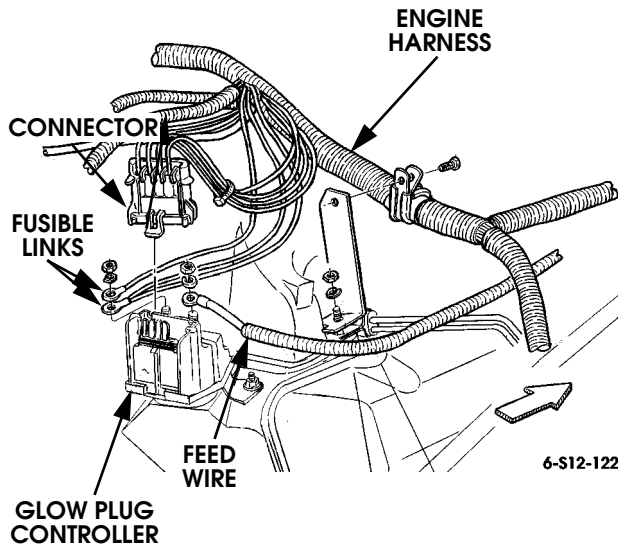

Figure 12-51: Glow Plug Controller Connections
- glow plug controller wires (Figure 12-51)
4. Attach harness connectors to necessary sensors, switches, and accessories (Figures 12-51 through 12-64).